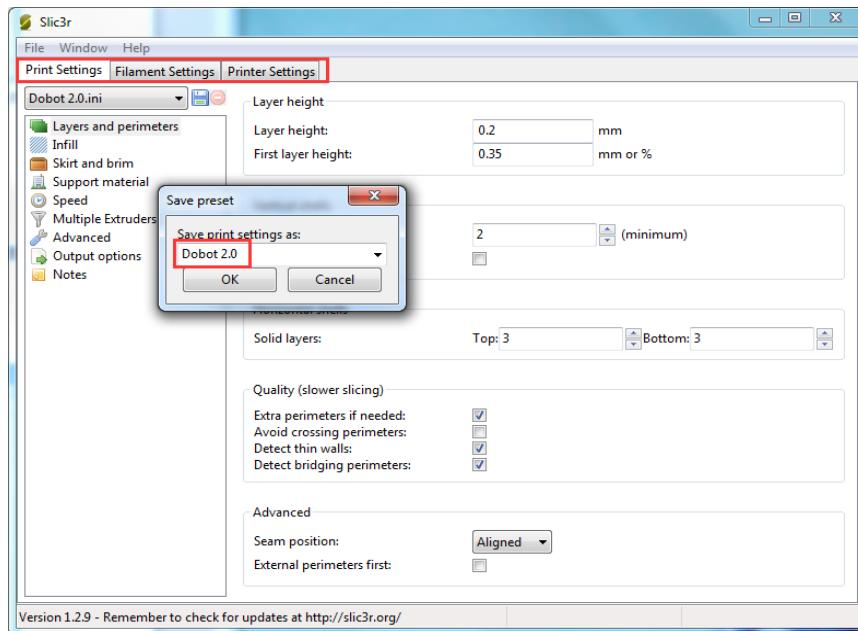

Figure 5.101 Save configuration file
- Save the Printing Settings, Filament Settings and Printer Settings tabs respectively after importing configuration sample, as shown in Figure 5.101.